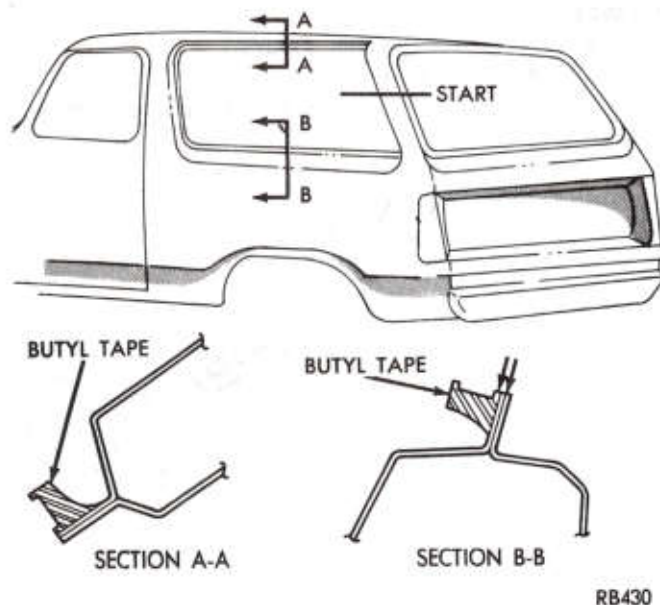
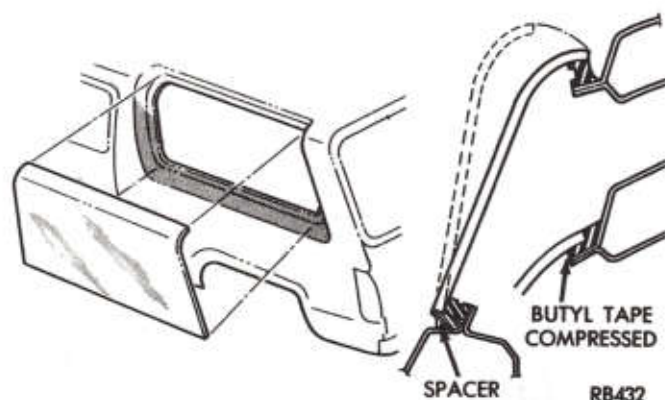
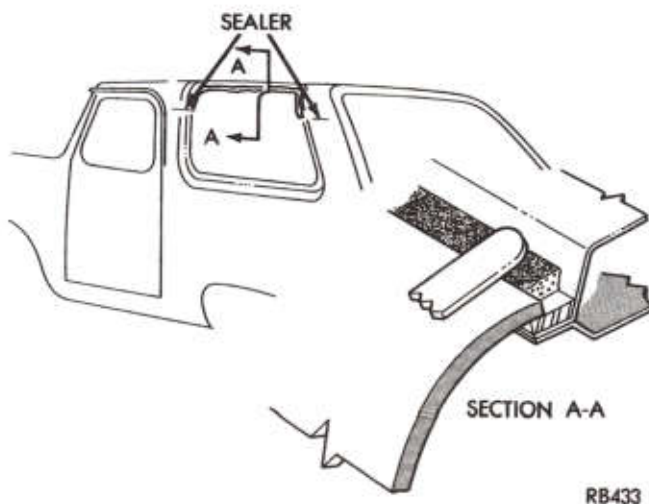

Fig. 11—Installing Butyl Tape
Fig. 12—Installing Quarter Window
Fig. 13—Sealing Quarter Window
- (4) Apply butyl tape to entire periphery of fence (Fig. 11).
- (5) Cut excess tape away and butt the ends firmly together.
- (6) Install quarter glass to butyl seal (Fig. 12).
- (7) Compress glass to seal to achieve a good seal.
- (8) Test quarter glass for water leaks.
- (9) If leakage occurs, additional sealing may be required. Use a suitable windshield sealer (Fig. 13).
- (10) Install mouldings.
- (11) Clean glass.